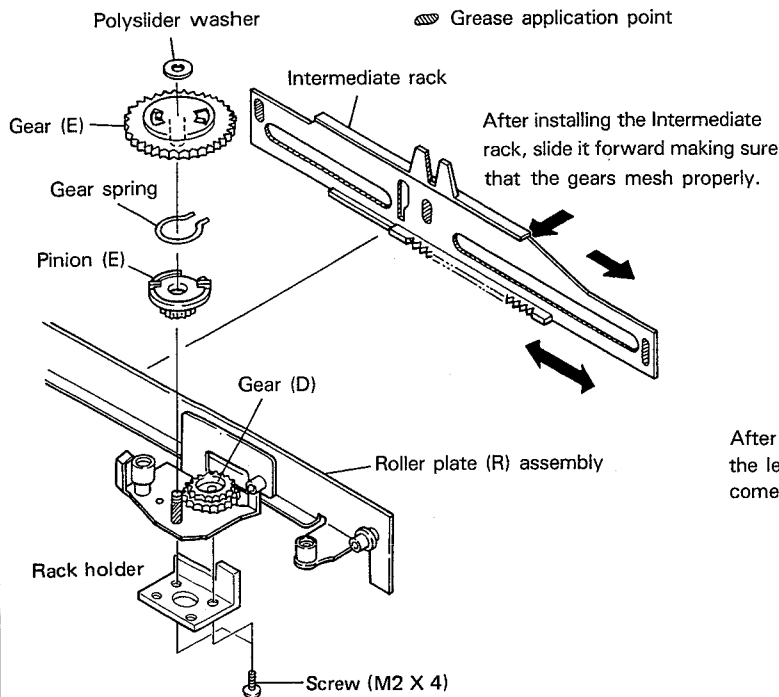
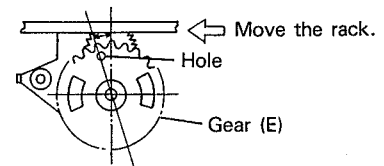

Fig. 1 Gear Assembly Gear Teeth Meshing
Fig. 3 Verifying the Gear Meshing
2. With the parts in the positions relative to each other shown in Figures 1 and 2, install the Intermediate rack on the Roller plate (R) assembly.
3. Move the Intermediate rack all the way from the position it has been fitted into and make sure that the hole in the Gear (E) is in the position shown in Fig. 3. When carrying out Operations 1-4 above, grease the locations shown in Fig. 1.
4. After installing the Intermediate rack, tighten the screws so that the Rack holder attaches the Roller plate (R) assembly (Fig. 1).
11.13 MESHING THE SUBCARRIER ASSEMBLY, SLIDE PLATE, GEAR (C)